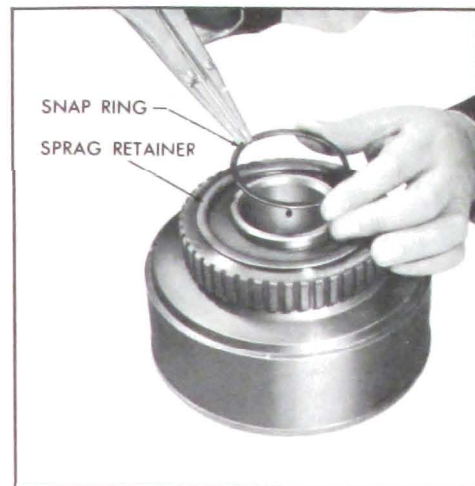

Figure 5-634
1. Remove sprag retainer snap ring and retainer. See Figure 5-634.